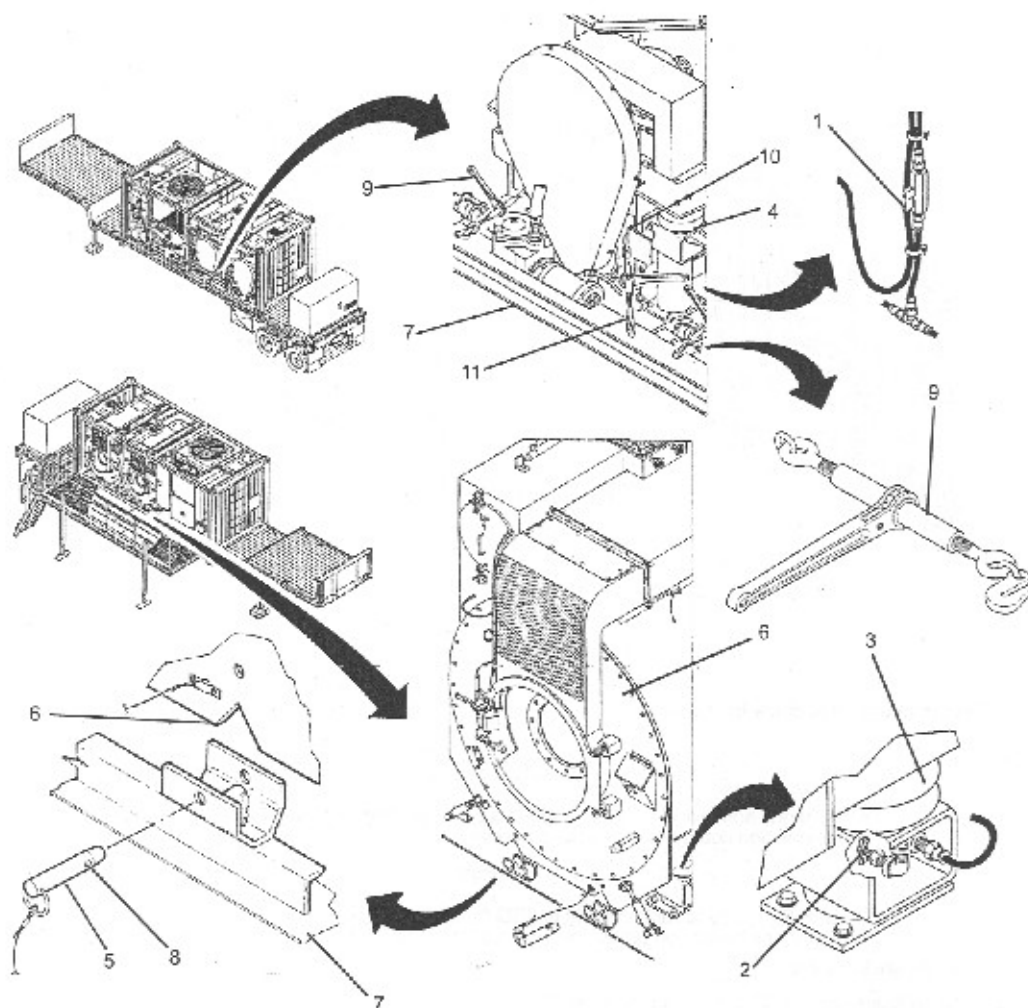

Figure 3-56
- (7) Attach four load binders at hook points.
- (8) Tighten load binders. (See Figure 3-56)